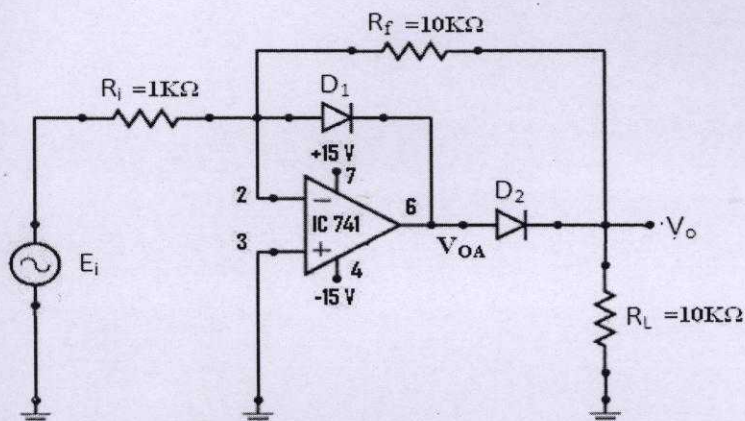

Fig 3.5. Precision Half-Wave Rectifier – A
- 1) Build the precision half wave rectifier circuit shown in fig. 3.5.
Draw the circuit of Fig.3.5, with reversed polarities for the two diodes. This is the precision HWR – configuration B.